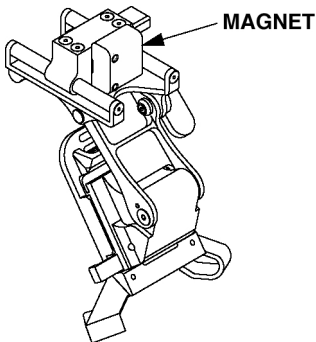

Figure 2-17. Locating the Magnet.
- If the magnet is not removed, turn the ruggedized metal helmet mount in to unit maintenance for removal. See Figure 2-17 for location of magnet.